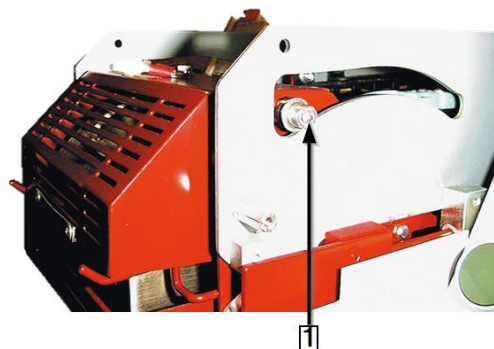

Fig. 69 : Heating element bearing screw
- ➔ Loosen the clamping screw (3) (Fig. 69, page 106) and the mounting block, and pull out the proximity switch.
- ➔ Disconnect the plug connectors **J14** (1) and **J16** (2) from the PCB controller.
- ➔ Re-attach the connectors **J14** (1) and **J16** (2).